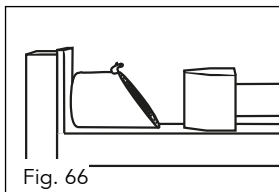

Fig. 66
Log placement (fig. 66 & 67)
2. Ensure the jockey wheel (6) is on the ground supporting the weight of the log splitter (fig. 66).